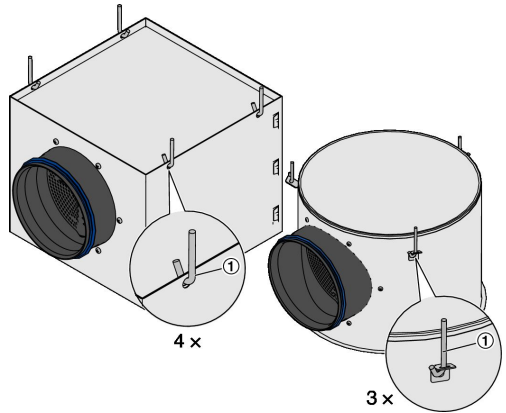

Fig. 2: Plenum box (square/circular)
1. ▶ Fix the suspension parts such as ropes, cables or metal hangers (Fig. 2/1) to the ceiling.